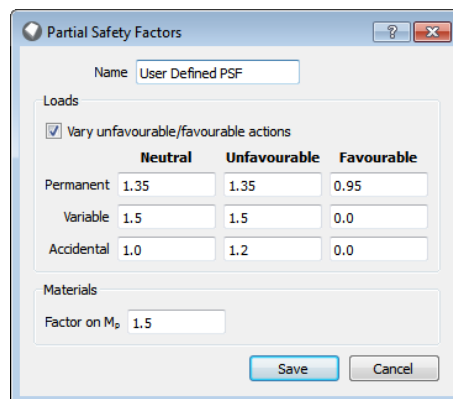

Figure 17.7: New Partial Factors in the Load Case Manager
- Open the **Load Case Manager** and select **New...** The **Partial Safety Factors** dialog will then be shown (Figure 17.7). Alternatively, to modify a Partial Factor Set that already exists, select it from the drop-down list then click the **Details...** button.